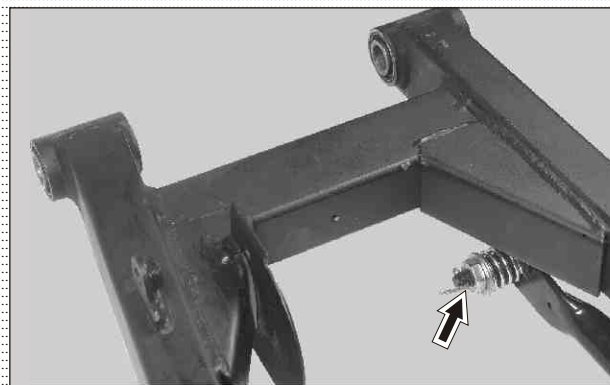

Fig. 6.132
- Remove split pin. (Fig. 6.132) (In case of drum brake model)